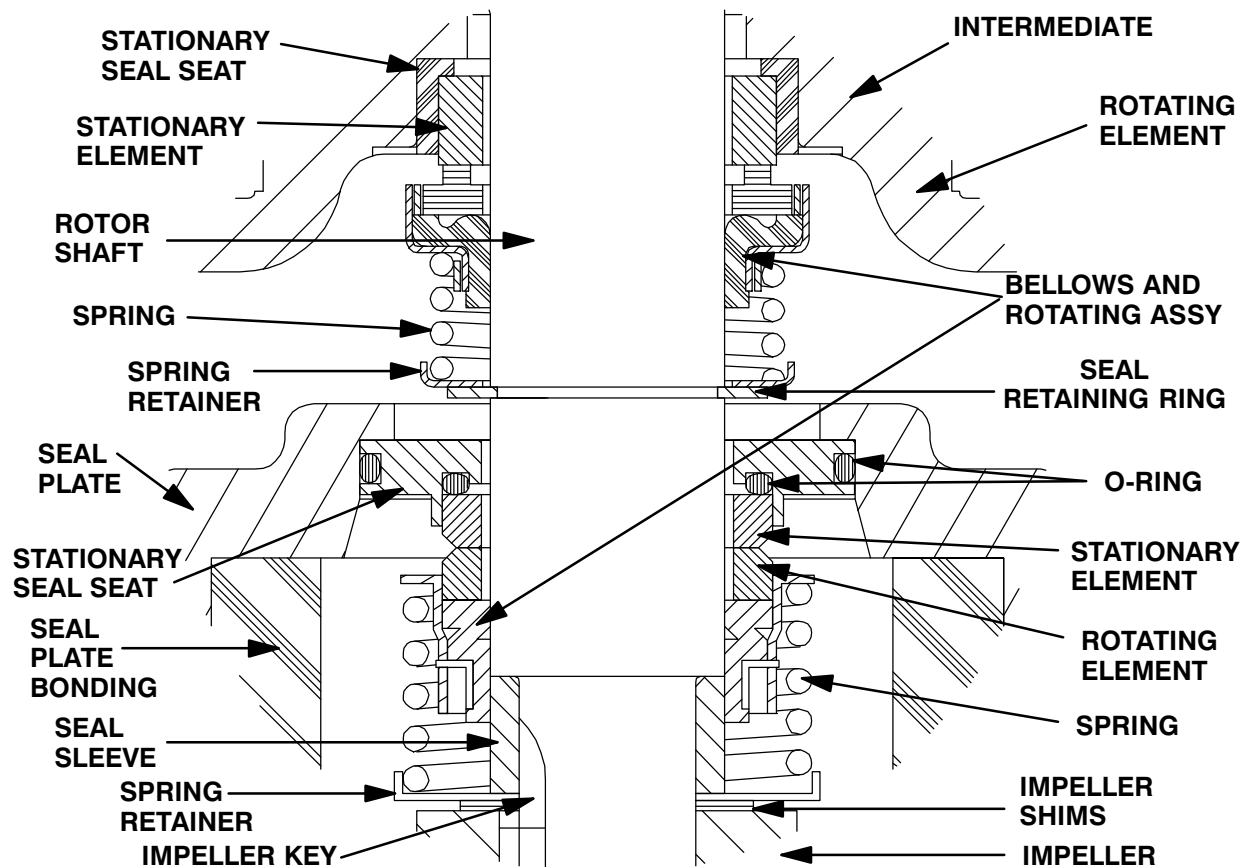

Figure 3. Upper And Lower Seal Assemblies
Install the shaft seals as illustrated in Figure 3.
Apply a **light** coating of oil to the seal seating surface on the shaft, the groove for the retaining ring (9), and I.D. of the bellows. Inspect the seal face to ensure that it is clean and dry. If cleaning is necessary, use a clean tissue to wipe in a circular pattern. Slide the seal rotating portion onto the lubricated shaft as shown in Figure 3. Apply firm, steady pressure on the seal retainer until it slides down the shaft and the seal faces contact.
Slide the seal spring over the shaft and bellows retainer, and install the spring retainer. Install the seal retaining ring (9). See Figure 3 for the proper order of seal assembly.
Slide the seal spring over the shaft and bellows retainer, and install the seal spring retainer (42). See Figure 3 for proper order of seal assembly.